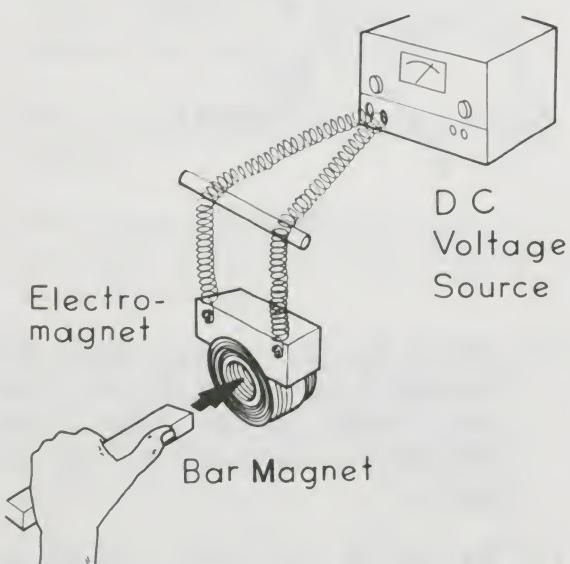

Figure 10.
- Suspend a coil of wire as shown in Figure 10. Pass a current of 1.5 amperes (A) through the coil. Bring the N-pole of a magnet near the axis of the coil. Does the magnet exert a force on the coil? Try the same thing with a different current through the coil. Is there a difference?